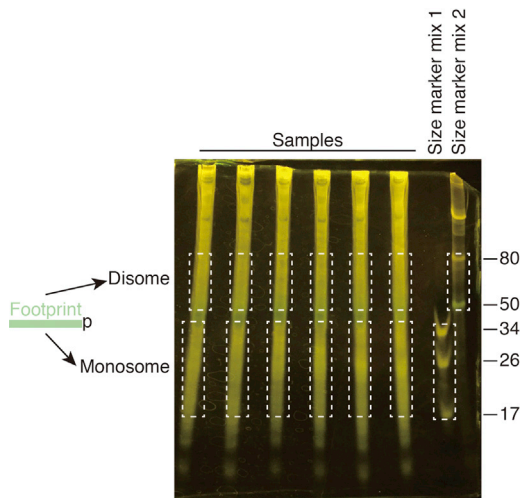

Figure 4. A Representative Gel Image for Footprinting Fragment Purification
47. Discard the staining buffer, visualize the gel by an LED transilluminator, and excise the region corresponding from 50 to 80 nt, demarcated by size markers from each footprinting sample, with a blade. Excise size markers as a control and proceed to downstream steps with the same procedure as the footprint samples. See Figure 4 as a representative result.